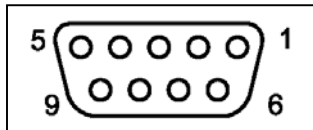

Figure 3. DB-9 Pin Assignment
4.2 The serial connection is made via the DB-9 female connector located on the front of the card. The DB-9 will connect to a RS-422 or RS-485 device. See Figure 3 for DB-9 pin-out assignments.
5.1 Two DIP switch settings are located on the front of the card. Refer to Figure 3 for correct application settings.
5.3 The RS422/485 Card provides LED Indicators on the front of the PCB. LED's show availability of power, the modes of operation, and data being received by the fiber and DB-9 ports. See figure 3.